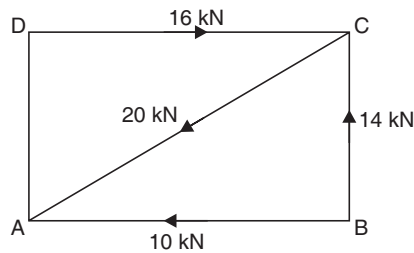

Fig. 3.62
16. The rectangle shown in Fig. 3.62 has  $AB = 200$  mm and  $BC = 150$  mm. Calculate the magnitude, direction, and position of the resultant force.